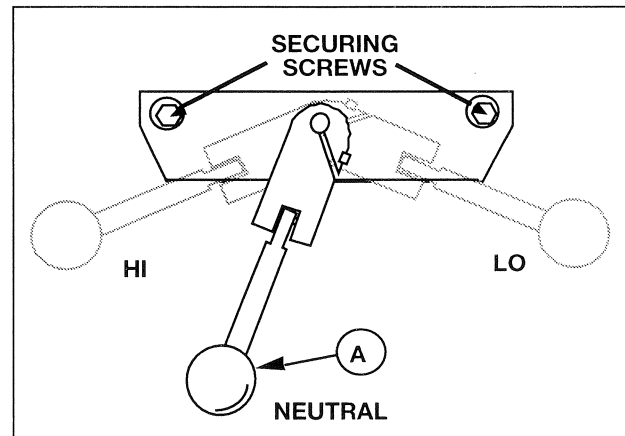

Figure 1-4: Hi-Neutral-Lo Lever
1.2.1 SPEED RANGE SELECTOR (HI-NEUTRAL-LO LEVER) (Figure 1-4)
At the lower right side of the spindle housing is the **Hi-Neutral-Lo Lever** (Figure 1-4). This lever is used to set the speed range for the spindle motor. It has three positions for the spindle motor gearing: LOW, NEUTRAL, and HIGH. Neutral is provided to permit free spindle rotation for indicating and set-up work. Be certain to check the position of this lever when starting up the EZTRAK.